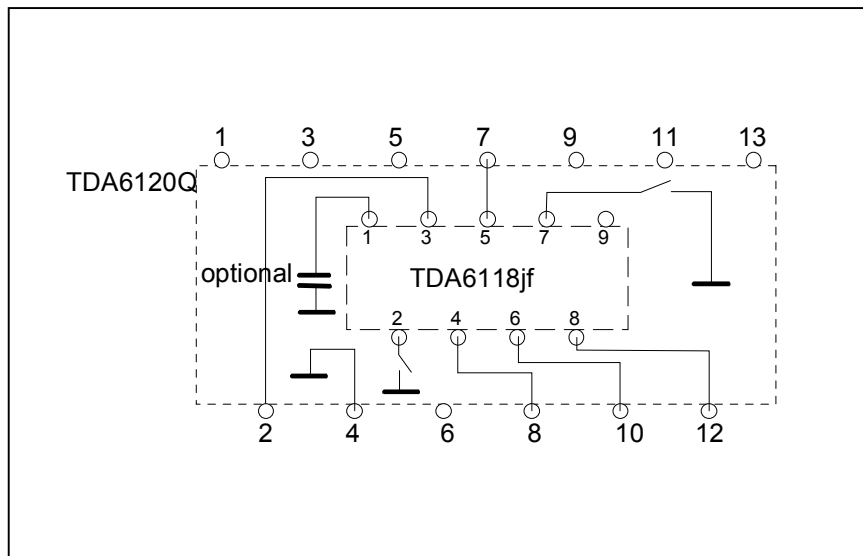
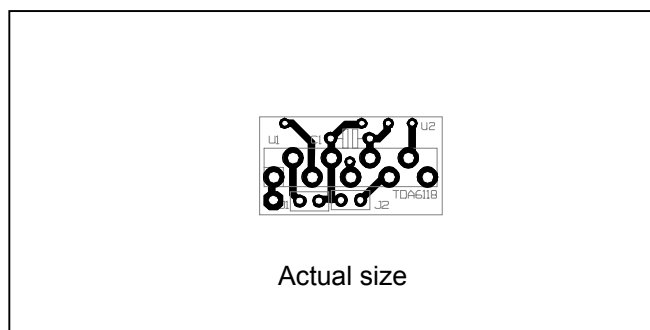

Figure 20: Electrical interface diagram TDA6120Q to TDA6118JF
Figure 21: Layout of the interface board
The circuit diagram and the layout are given below in Figure 20 and Figure 21.
2. Insert the TDA6118JF interface socket in the TDA6120Q position pins. See Figure 20.